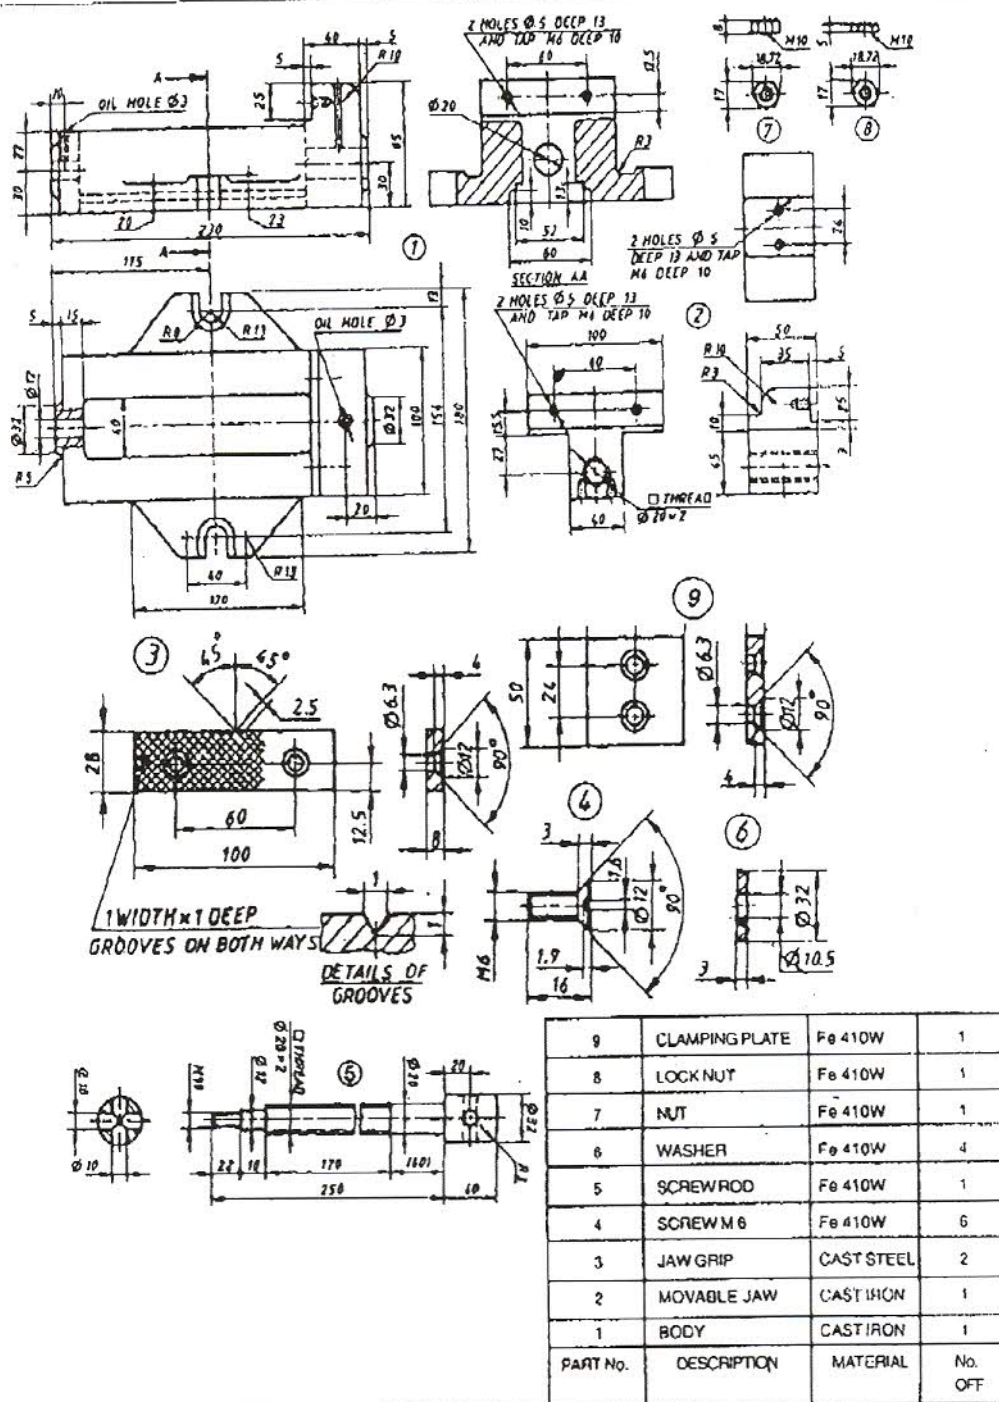

FIGURE 2
6) Figure 2. Shows the details of a Machine Vice. Assemble the parts and draw i) Sectional Front View ii) Top view iii) Assembled 3D view. [60 Marks]